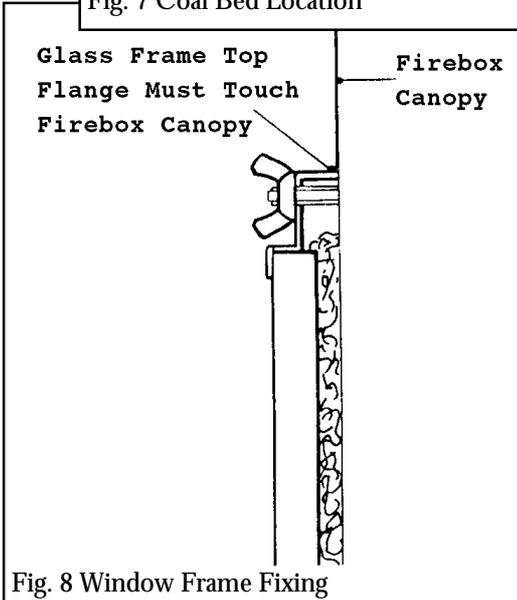

Fig. 8 Window Frame Fixing
9.2 Replace the window unit. Secure with the three wing nuts making sure that the window frame is correctly fitted - see fig.8.